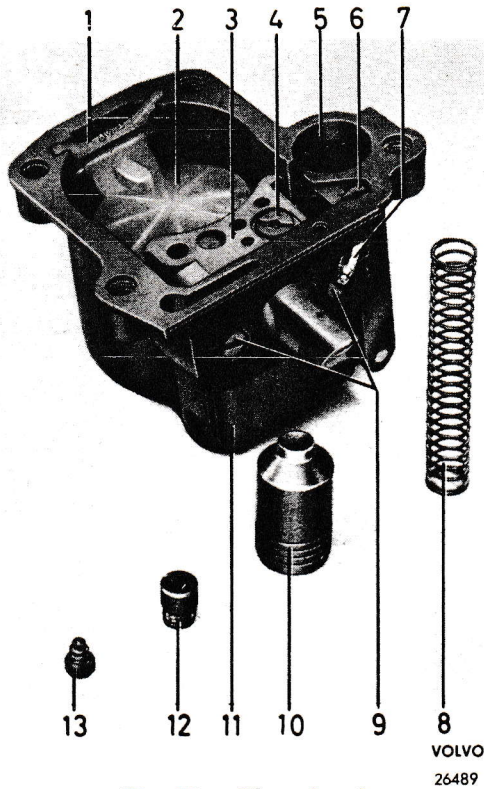

Fig. 70. Float bowl
When cleaning the carburetor it is often sufficient merely to move the float chamber, take out the float, screw out the air jet for idling (4, Fig. 70) as well as the actual idling jet which is located under the air jet. Also remove the acceleration pump plunger and the idle fuel screw, this screw being on the carburetor housing. Remove the needle valve and
2. Remove the lock spring (1, Fig. 70) and lift up the float (2). Note the marking (TOP) on the lock spring.
3. Remove the emulsion block screws (9) and take up the block.
5. Remove the acceleration pump plunger, spring, inlet valve, outlet valve and acceleration jet. See Fig. 70.